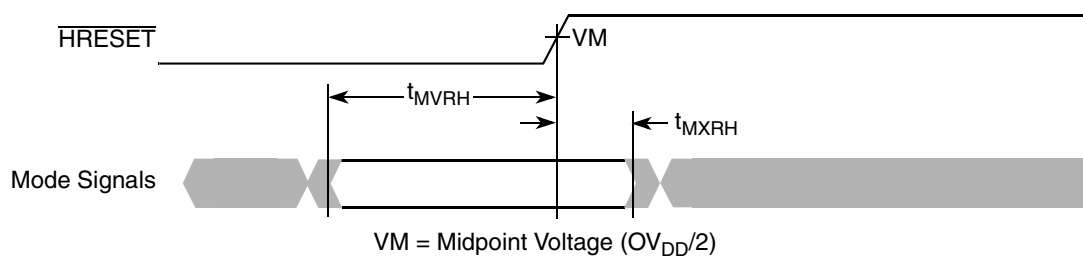
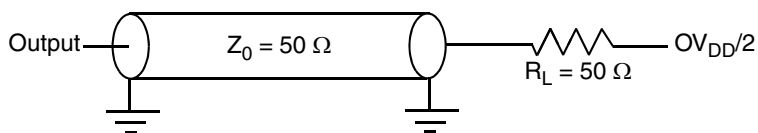
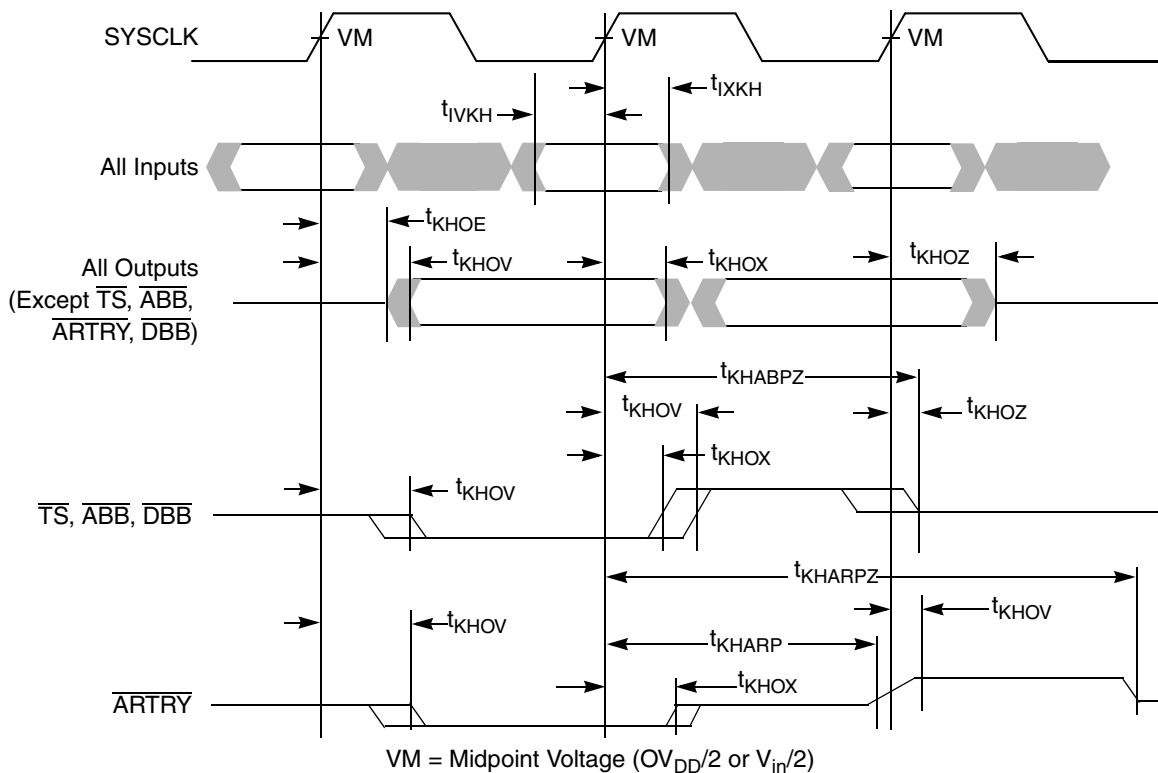

Figure 4. Mode Input Timing Diagram
Figure 5. AC Test Load
Figure 6. Input/Output Timing Diagram
Table 9 provides the processor bus AC timing specifications for the MPC755 as defined in Figure 4 and Figure 6. Timing specifications for the L2 bus are provided in Section 4.2.3, “L2 Clock AC Specifications.”
- All input specifications are measured from the midpoint of the signal in question to the midpoint of the rising edge of the input SYSCLK. All output specifications are measured from the midpoint of the rising edge of SYSCLK to the midpoint of the signal in question. All output timings assume a purely resistive 50- $\Omega$  load (see Figure 5). Input and output timings are measured at the pin; time-of-flight delays must be added for trace lengths, vias, and connectors in the system.
- The symbology used for timing specifications herein follows the pattern of  $t_{(\text{signal})(\text{state})(\text{reference})(\text{state})}$  for inputs and  $t_{(\text{reference})(\text{state})(\text{signal})(\text{state})}$  for outputs. For example,  $t_{IVKH}$  symbolizes the time input signals (I) reach the valid state (V) relative to the SYSCLK reference (K) going to the high (H) state or input setup time. And  $t_{KH OV}$  symbolizes the time from SYSCLK (K) going high (H) until outputs (O) are valid (V) or output valid time. Input hold time can be read as the time that the input signal (I) went invalid (X) with respect to the rising clock edge (KH)—note the position of the reference and its state for inputs—and output hold time can be read as the time from the rising edge (KH) until the output went invalid (OX).
- The setup and hold time is with respect to the rising edge of  $\overline{\text{HRESET}}$  (see Figure 4).
Figure 4 provides the mode select input timing diagram for the MPC755.
Figure 5 provides the AC test load for the MPC755.
- Per the 60x bus protocol,  $\overline{TS}$ ,  $\overline{ABB}$ , and  $\overline{DBB}$  are driven only by the currently active bus master. They are asserted low, then precharged high before returning to high-Z as shown in Figure 6. The nominal precharge width for  $\overline{TS}$ ,  $\overline{ABB}$ , or  $\overline{DBB}$  is  $0.5 \times t_{sysclk}$ , that is, less than the minimum  $t_{sysclk}$  period, to ensure that another master asserting  $\overline{TS}$ ,  $\overline{ABB}$ , or  $\overline{DBB}$  on the following clock will not contend with the precharge. Output valid and output hold timing is tested for the signal asserted. Output valid time is tested for precharge. The high-Z behavior is guaranteed by design.
- Per the 60x bus protocol,  $\overline{ARTRY}$  can be driven by multiple bus masters through the clock period immediately following  $\overline{AACK}$ . Bus contention is not an issue since any master asserting  $\overline{ARTRY}$  will be driving it low. Any master asserting it low in the first clock following  $\overline{AACK}$  will then go to high-Z for one clock before precharging it high during the second cycle after the assertion of  $\overline{AACK}$ . The nominal precharge width for  $\overline{ARTRY}$  is  $1.0 t_{sysclk}$ ; that is, it should be high-Z as shown in Figure 6 before the first opportunity for another master to assert  $\overline{ARTRY}$ . Output valid and output hold timing is tested for the signal asserted. Output valid time is tested for precharge. The high-Z and precharge behavior is guaranteed by design.
Figure 6 provides the input/output timing diagram for the MPC755.